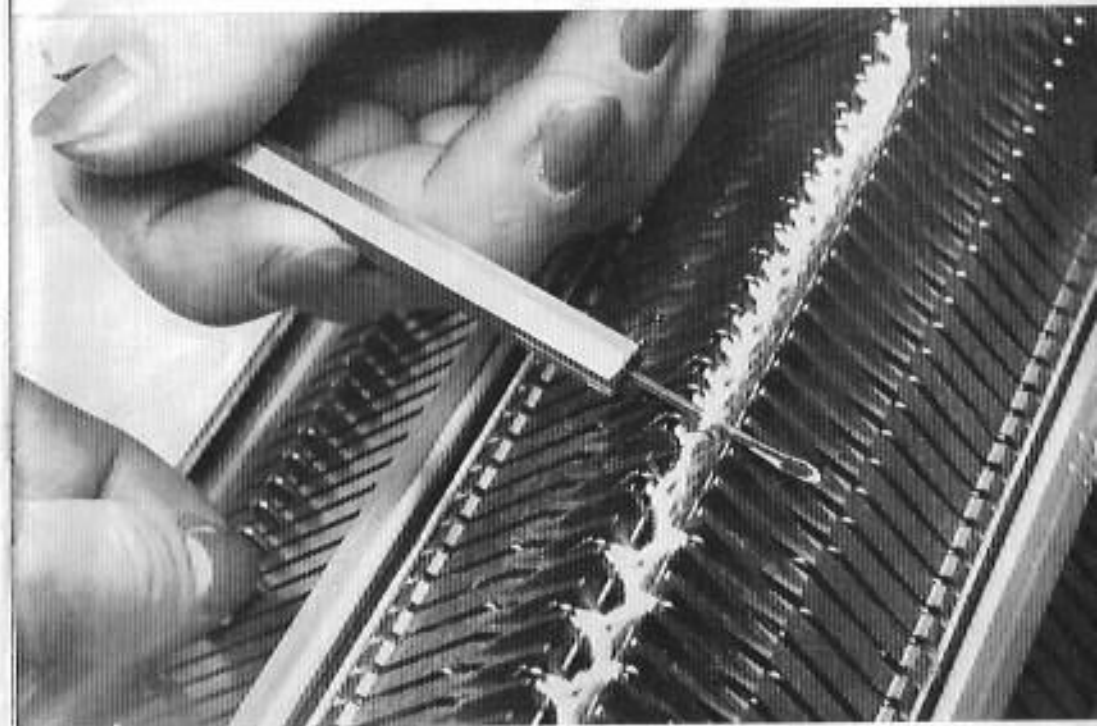

Fig. 18
the needle upwards till the stitch is beyond the latch; then push the needle downwards as far as the tool will go. Tip the tool slightly backwards so that the stitch slides on the tool, near the shaft. With your left hand push the appropriate needle on the BNB up and into the stitch on the tool. Withdraw the tool. Continue till all the stitches are transferred from the FNB to the BNB (Fig. 18). Take off the front slide by unscrewing 15a. Take off the FNB by taking out the black knobbed locking bolts (10). Loosen stop screw (7). Disengage the racking lever. Hold the FNB with both hands and pull to the right when it will slide off. Fasten the stripper (25) under the front of the slide handle.